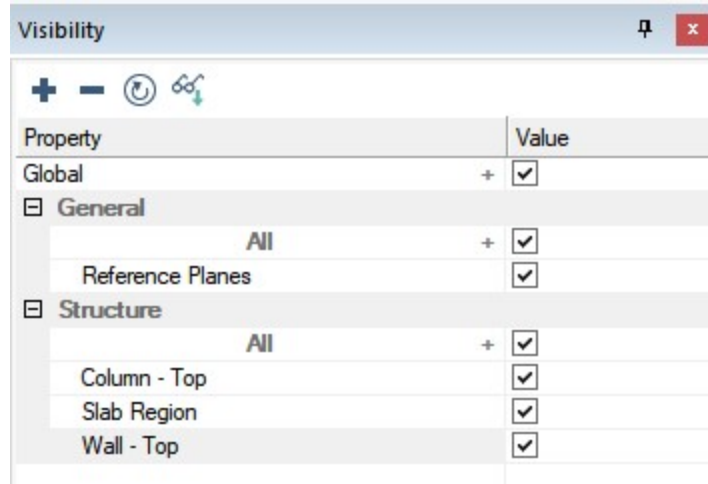

Figure 2.6-8 – Visibility Panel
- Now use the **Visibility Panel (Visibility tab at the bottom of the properties grid)** to turn on the display of **Slab Region**, **Column** and **Wall** as shown in **Figure 2.6-8**. This will display the checked structural objects in the model space.